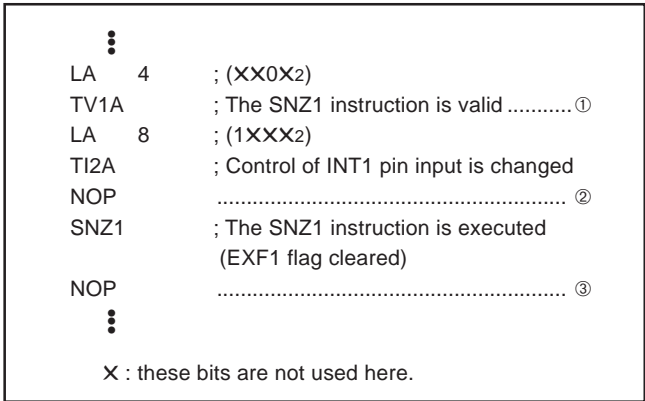

Fig. 21 External 1 interrupt program example-1
- Depending on the input state of the P31/INT1 pin, the external 1 interrupt request flag (EXF1) may be set when the bit 3 of register I2 is changed. In order to avoid the occurrence of an unexpected interrupt, clear the bit 1 of register V1 to "0" (refer to Figure 21①) and then, change the bit 3 of register I2. In addition, execute the SNZ1 instruction to clear the EXF1 flag after executing at least one instruction (refer to Figure 21②). Also, set the NOP instruction for the case when a skip is performed with the SNZ1 instruction (refer to Figure 21③).